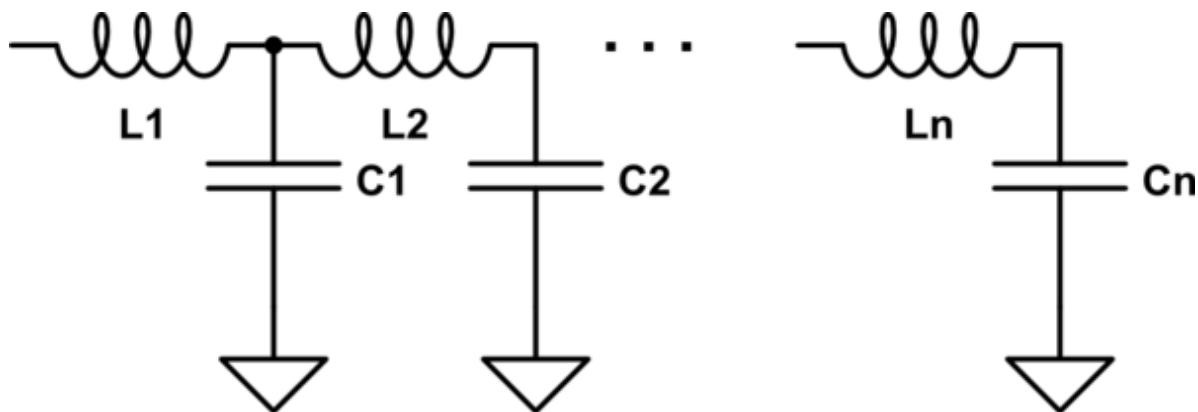

Figure 2: Generic Lumped Element L-C Structure
Circuit analysis typically assumes that the physical dimension of a network is much smaller than the electrical wavelength of the incident signal. Voltages and currents do not vary with the physical dimensions of lumped elements in the filter. Lumped element filters are passive, lossless and reciprocal, and consist of inductors (L) and capacitors (C). The generic structure of a lumped element L-C filter is shown in Figure 2 below.